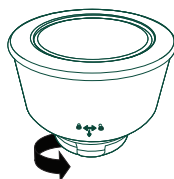

Figure 1
2. Remove the bean hopper by rotating counterclockwise to unlock from the machine (figure 1).
7. Place grind setting to the “**Fine**” (0) and then Turn the machine **ON** by pressing the **Power** button.